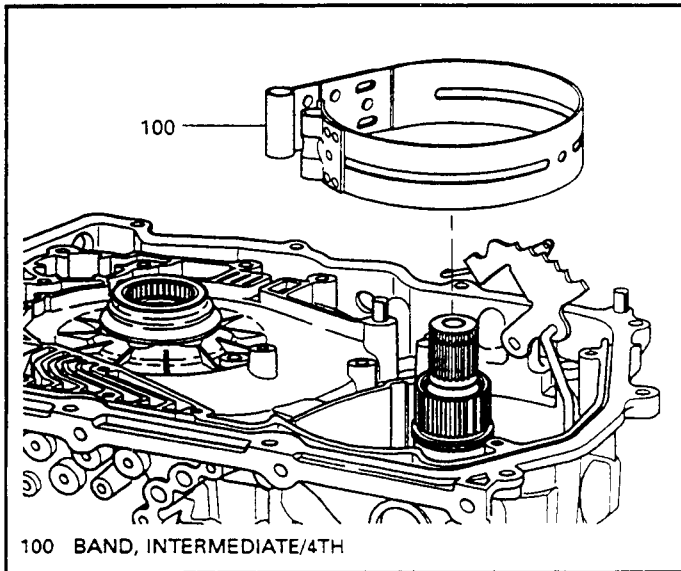

Figure 71
69. Remove the intermediate/4th band assembly as shown in Figure 71.